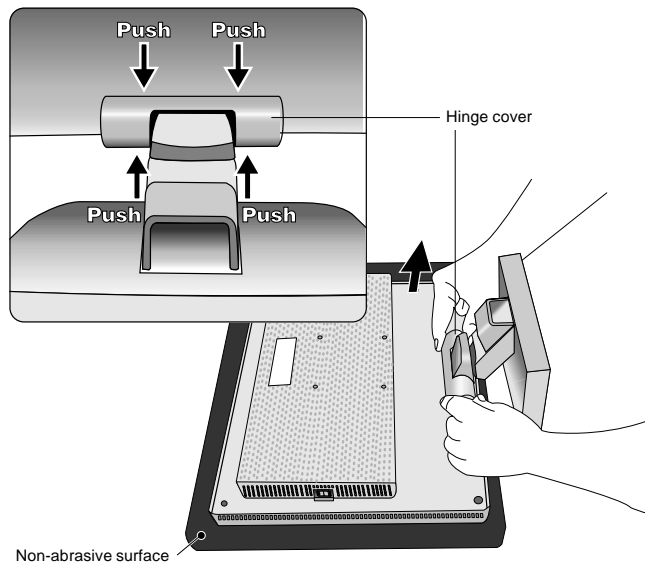

Figure R.1
2. Place monitor face down on a non-abrasive surface (**Figure R.1**).
3. Remove the hinge cover (**Figure R.1**).